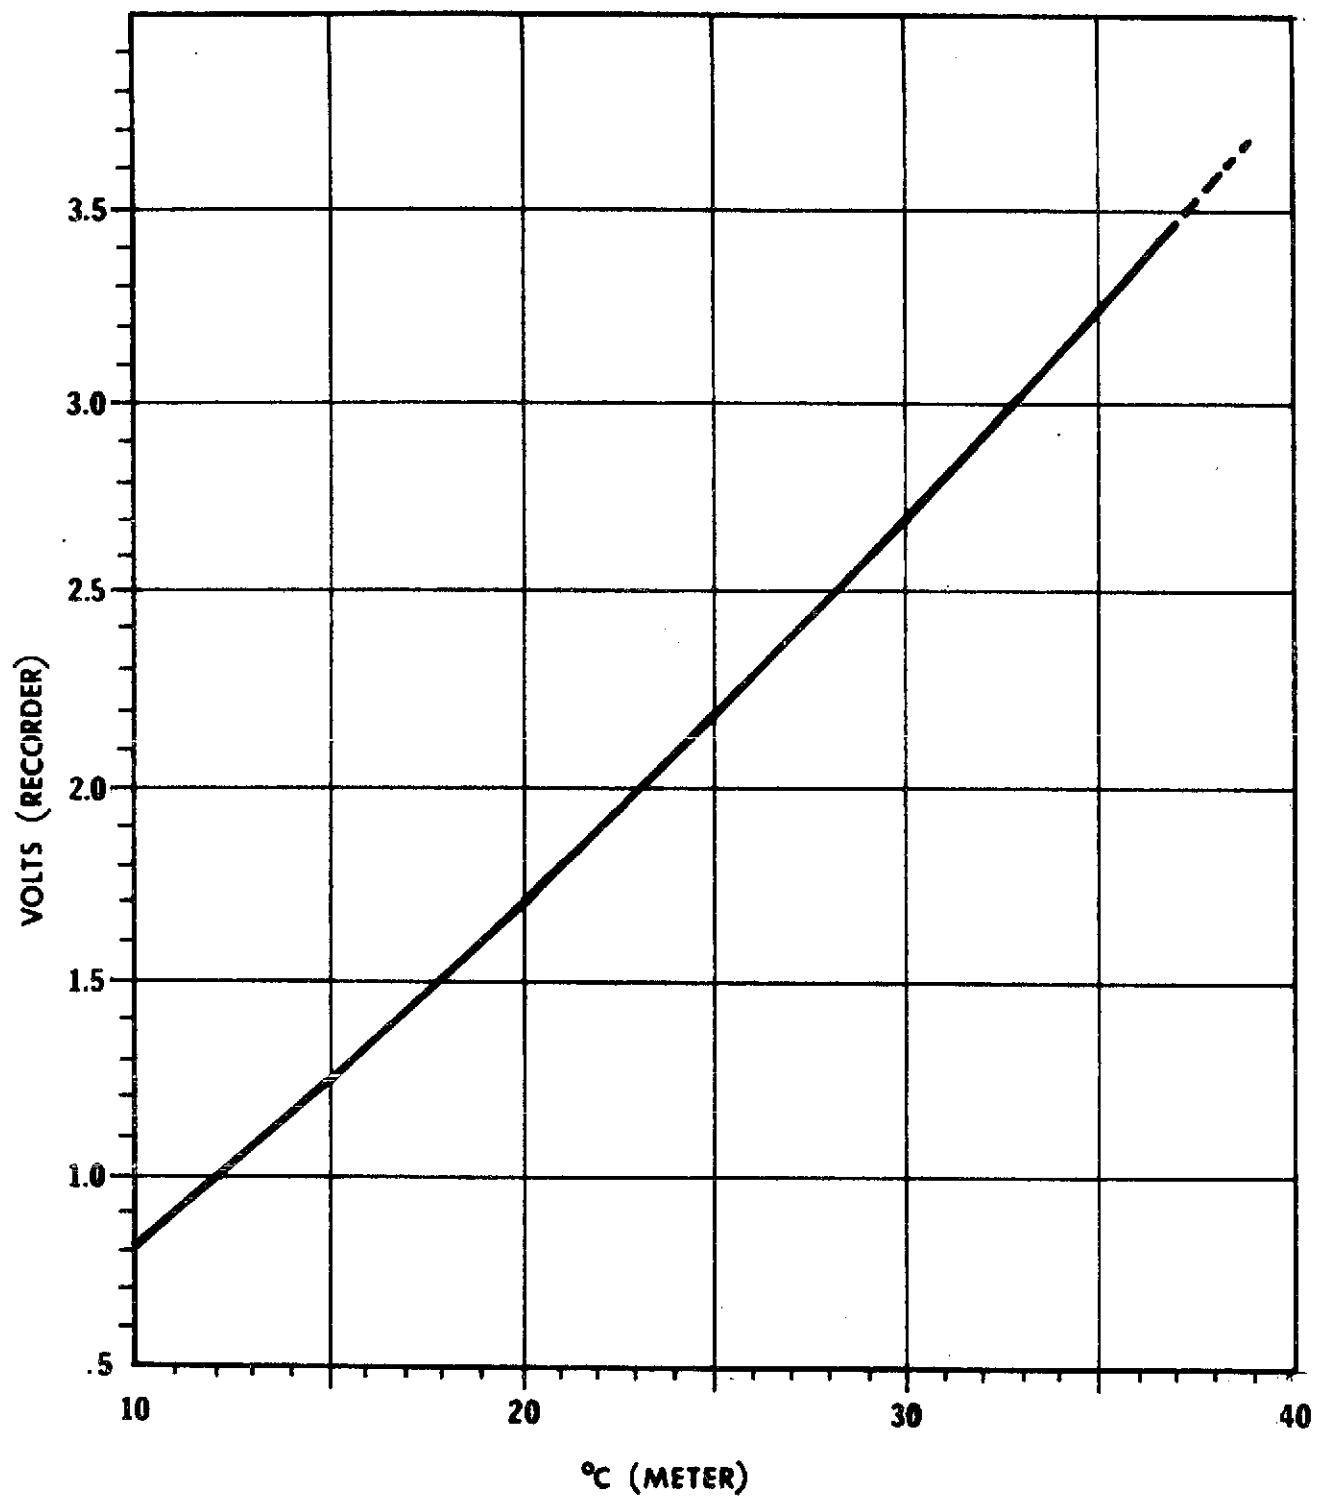

Figure 4-2. Radiometer Output to Recorder
- d. Note the temperature indicated on the output meter (1, figure 2-8) and refer to figure 4-2 for the corresponding output voltage. Verify that the multimeter reads within 0.05 volts of that value.